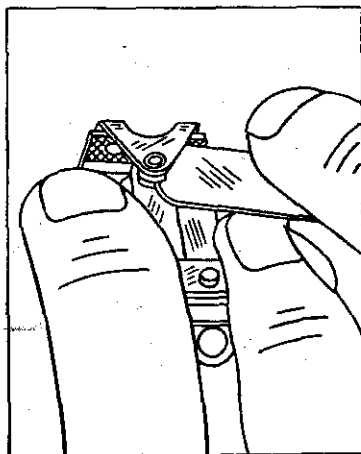

FIGURE 66
10. Check the contact gap with the armature against the stop pin. (See Figure 66)